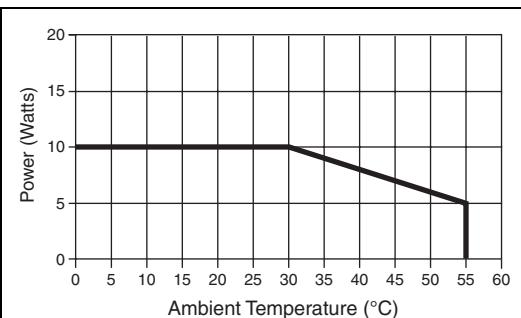

Figure 4. Maximum Sinking Power versus Ambient Temperature for Channel 1
* Current input/output for channel 1 is limited to 2 W or 300 mA when operating under internal power. Continuous sinking power for channel 1 is limited to 10 W, subject to derating above 30°C. Refer to Figure 4, *Maximum Sinking Power versus Ambient Temperature for Channel 1*.